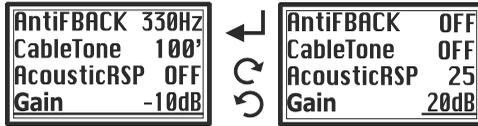

Fig. 15
(G) Gain control function, Fig. 15: